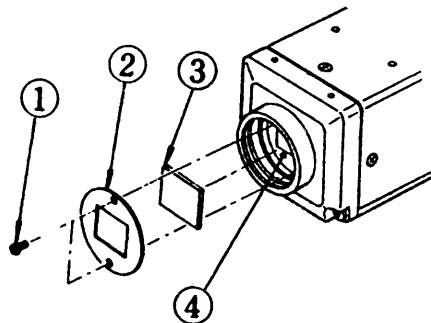

Fig. 6
- (1) Remove two screws ① shown in Fig. 6, and filter holder ② will come off.
- (2) Remove the dummy glass ③ from filter frame ④.
- (3) Then, reinstall and secure filter holder ② with two screws ①.